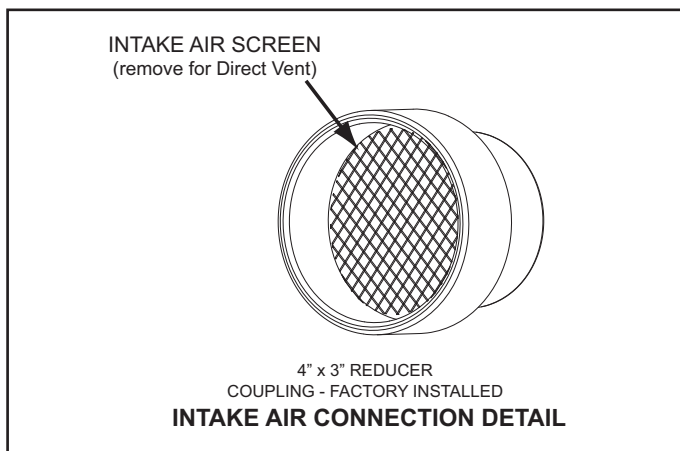

Figure 17. Intake Air Terminal
13. Ensure the Intake Air Screen on the Intake Air Connection is removed before connecting the intake air pipe to the water heater, see Figure 17.